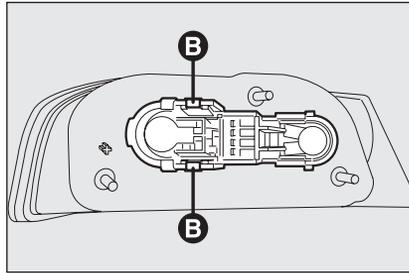

fig. 35
- remove the bulb holder unit by pressing the retaining tabs **B**-fig. 35;
- refit the bulb holder unit securing it properly using the retaining tabs **B**-fig. 35;